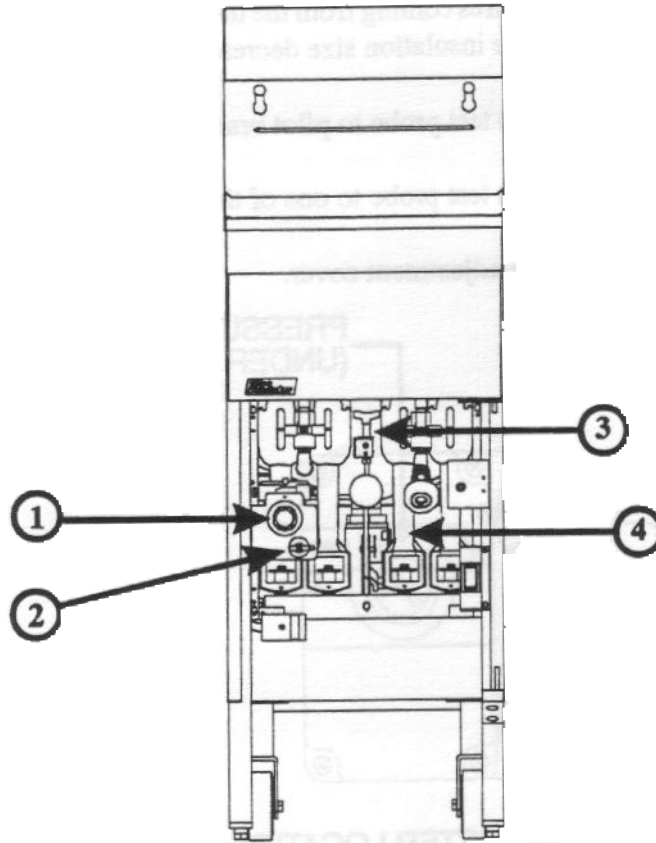

Figure 1-1 Inside View of Fryer
1.5.2.1 **Lighting Instructions for Manual Pilot Lights** - To light the pilot light refer to these instructions and Figure 1-1. The numbers in parenthesis refer to Figure 1-1 callouts.